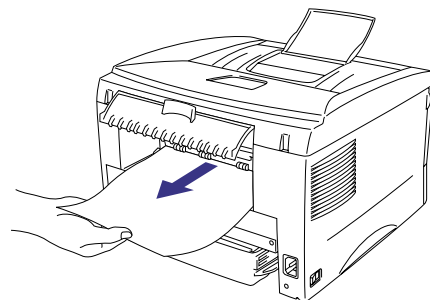

Fig. 6-4
- (5) Open the rear cover and pull the jammed paper out of the fixing unit. If you have to pull the paper towards the back of the printer, the fuser may get dirty with toner powder and may result in toner scatter on the next printed page or pages. Print a few copies of the test page until the toner scatter on the printed pages stops. (Fig. 6-4)
- (6) Close the rear cover.
- (7) Install the drum unit assembly and the paper cassette, then close the front cover.